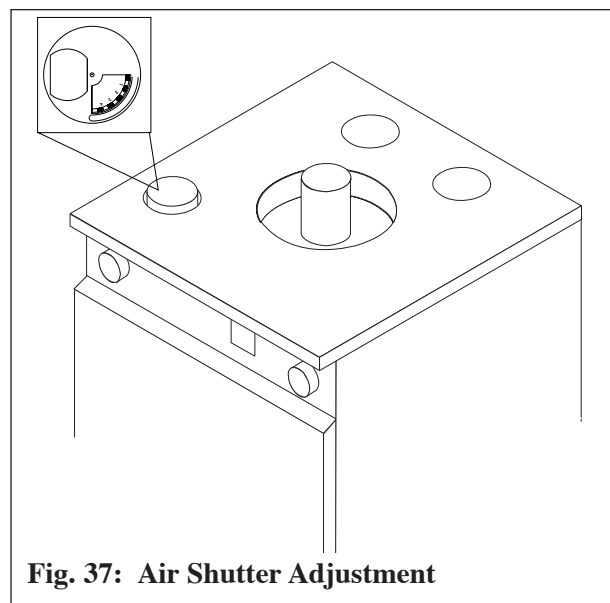

Fig. 37: Air Shutter Adjustment
- The air shutter is located inside the combustion air inlet adapter located in the top /left jacket panel area. See Fig. 37.